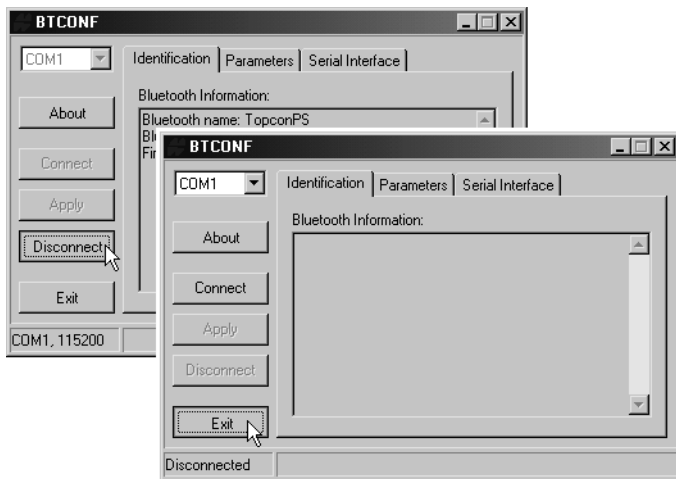

Figure 2-38. Click Disconnect then Exit
- Click **Disconnect** then **Exit** (Figure 2-38) to quit BTCONF.